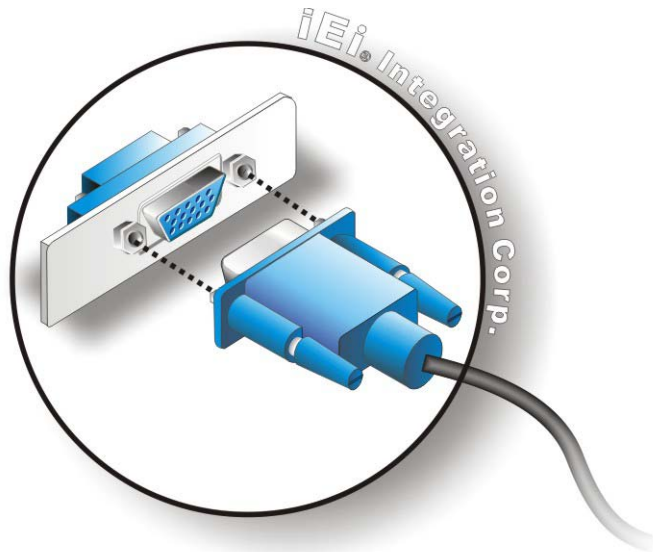

Figure 3-18: VGA Connector
Step 2: **Align the connectors.** Align the USB device connector with one of the connectors on the external peripheral interface. See **Figure 3-18**.